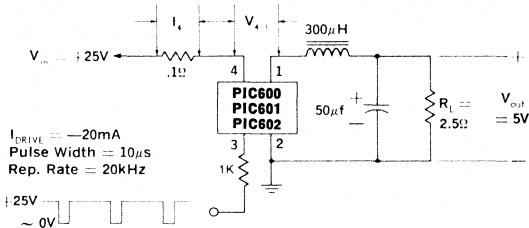

Figure 1. PIC600, 601, 602 Switching Speed Circuit
2. The efficiency is a measure of internal power losses and is equal to Output Power divided by Input Power. The switching speed circuit of Figure 1 , in which the efficiency is measured, is representative of typical operating conditions for the PIC600 series switching regulators.